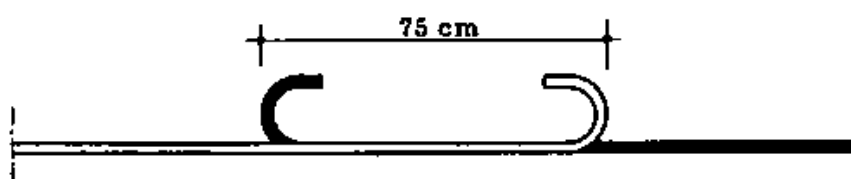

Fig. 4
- NOTE: As a rule, main bars should never be extended. If this is necessary, the shortest overlap for bars under tension is 75 cm, and the ends of the bars must have U-shaped hooks (Fig. 4).